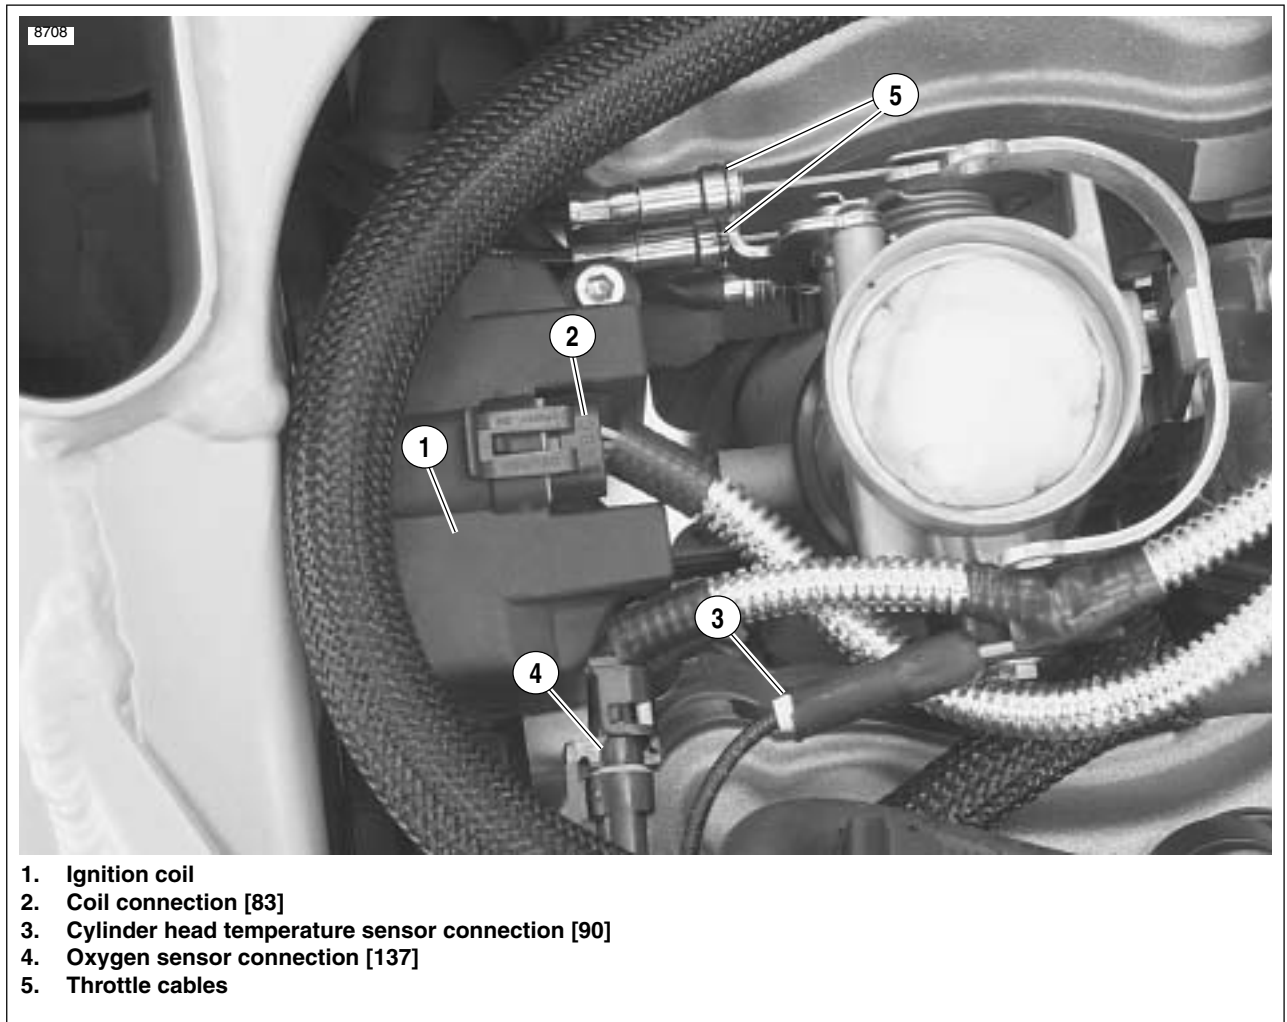

Figure 3-58. Electrical Connections and Throttle Cables (Typical)
36. See Figure 3-58. Connect throttle cables (5) to induction module/throttle body.
- a. Temperature sensor [90] (3).
- b. Oxygen sensor [137] (Install cable strap on harness) (4).
38. Install the ignition coil (1) and spark plug wires and connect [83] (2). Tighten ignition coil fasteners to 120-144 **in-lbs** (13.6-16.3 Nm).